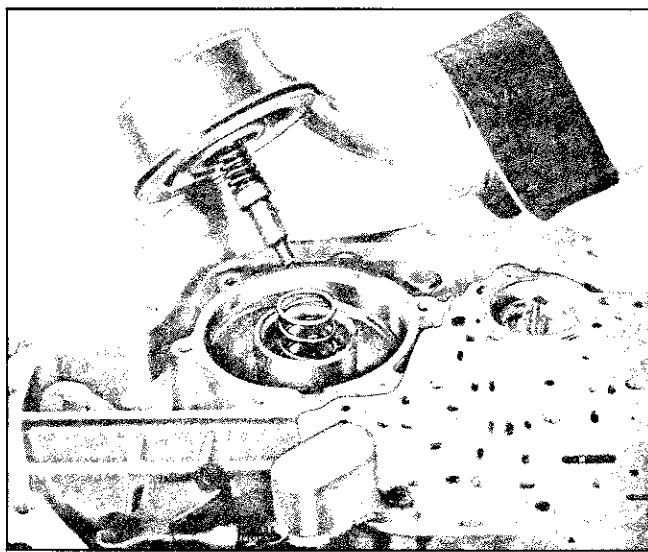

Fig. 7E-163 Installing Rear Servo
3. Install two guide pins (control valve assembly attaching screws with heads removed) (Fig. 7E-166).